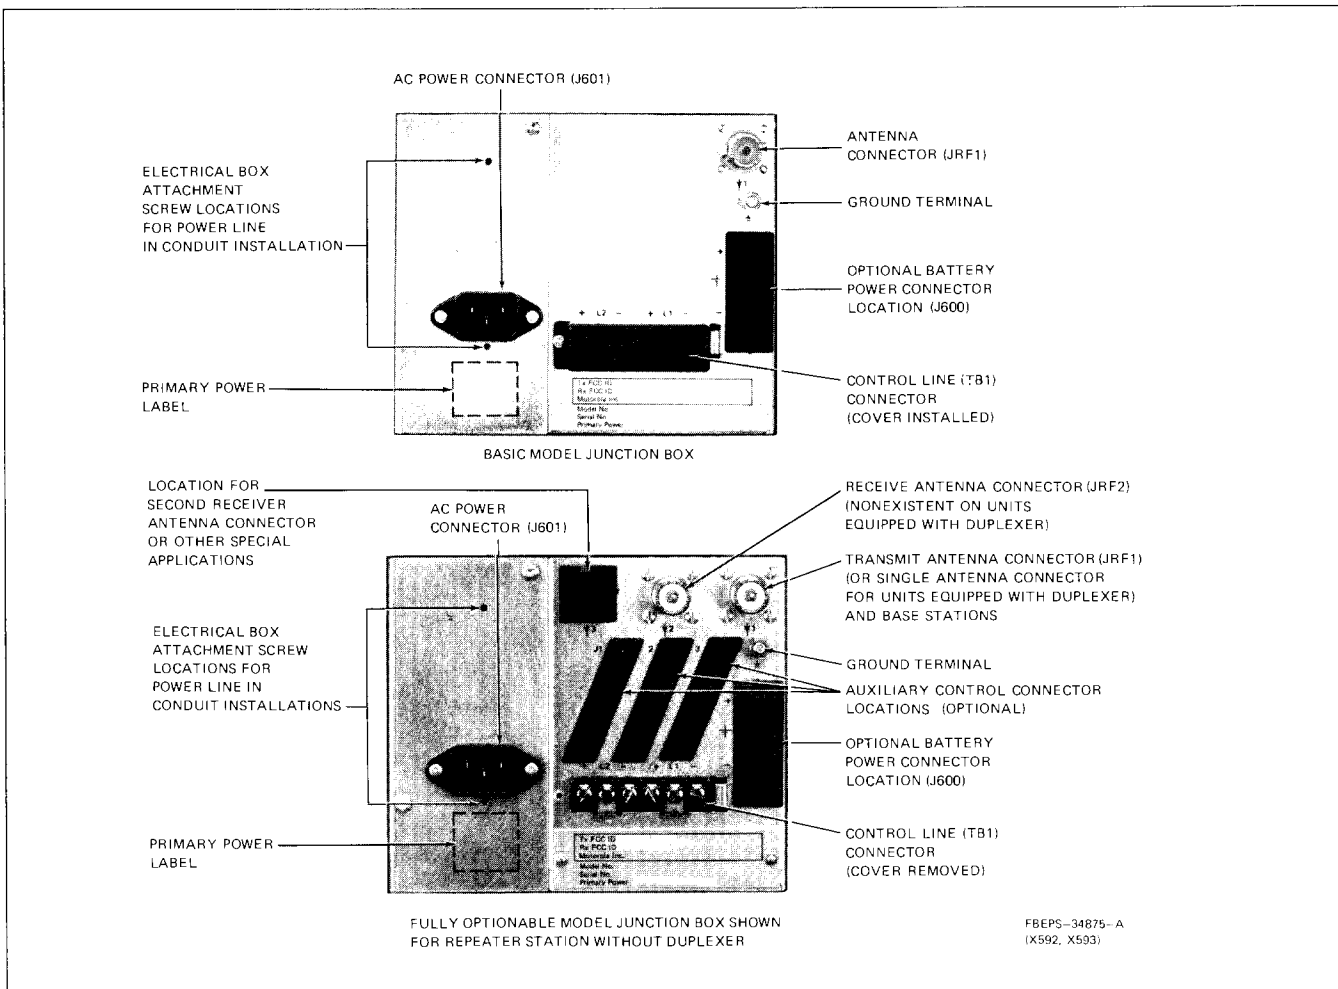

Figure 2. External Connection Details
6.3 All coaxial antenna cables connect to UHF coaxial connectors located on the junction box. For repeater stations without the optional duplexer, two antennas are required; one for the transmitter and one for the receiver. For repeater stations with the optional duplexer, only one antenna is required. Refer to Figure 2 for antenna connection details.
Step 2. Connect the female plug of three-wire ac line cord to the power connector on the junction box. See Figure 2.
Step 4. Attach a 4-1/8" × 2-3/8" × 1-1/2" electrical box (Appleton Catalogue No. 184-E universal code 69351 or equivalent box extension ring, not supplied) to the junction box using two #6-32 × 5/16" long self tapping washer head screws in the holes provided. See Figure 2.
Connect the 600-ohm lines to the screw terminals on the junction box control line connector as shown in Figure 2. (In 2-wire applications, use line 1 connections.)